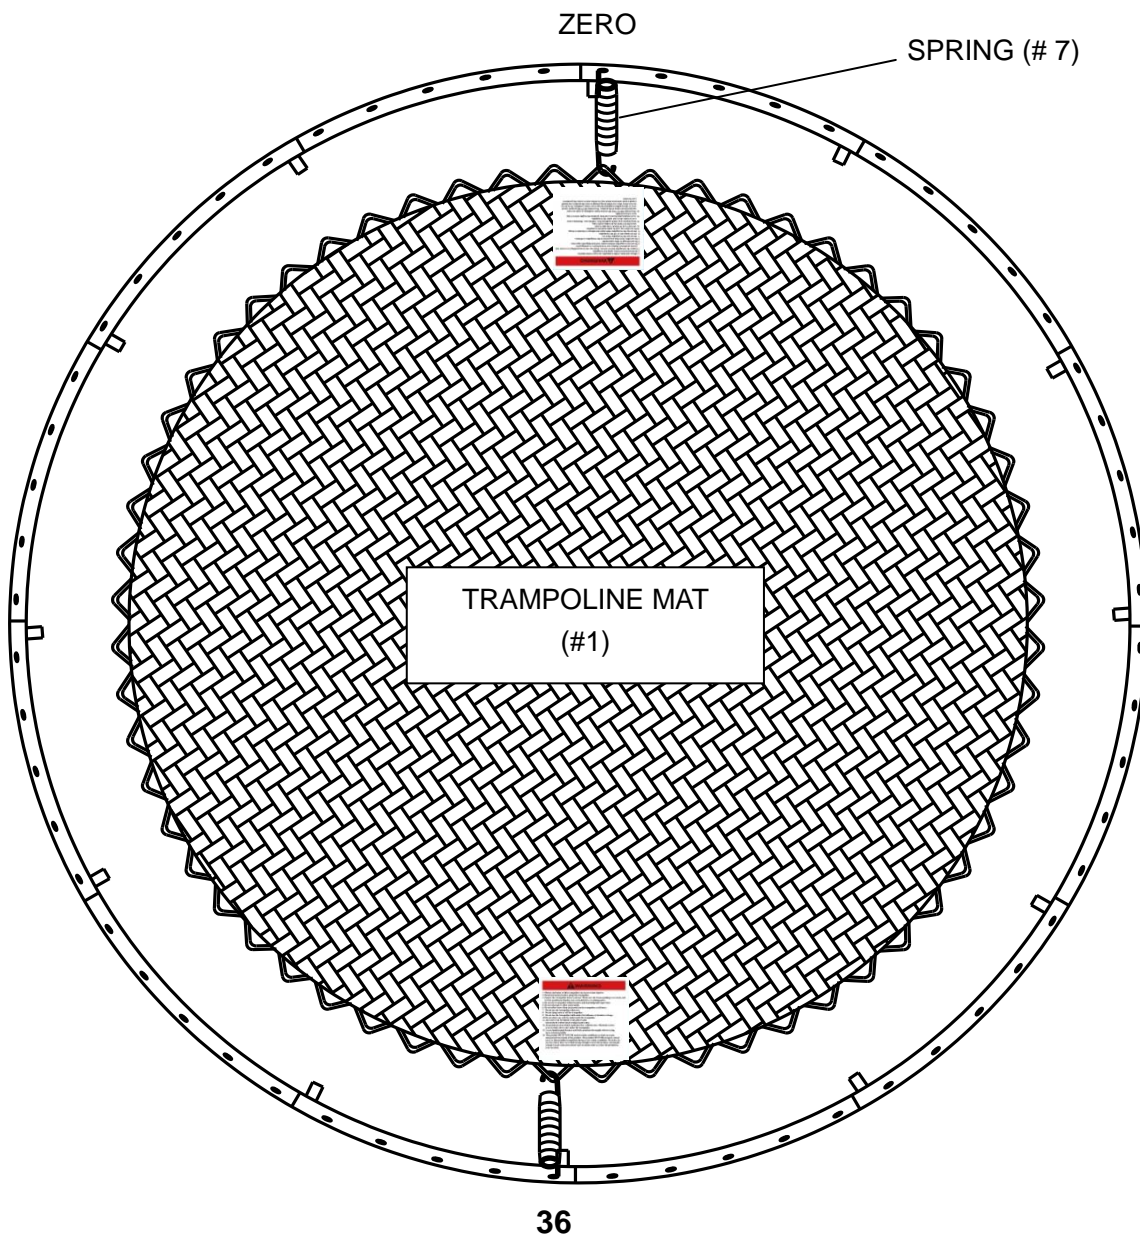

FIGURE 8
- C. Count holes 36 on the Top Rail and corresponding Triangle-Rings, you should be at point 36. Attach a spring at this point as shown in FIGURE 8